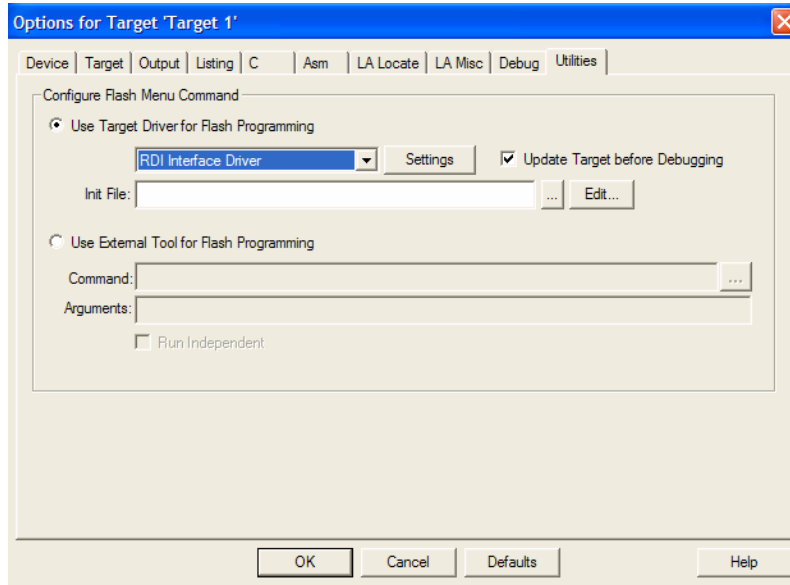

Figure 10
- (6) Configure the last tab of Utilities as figure 10 shows.